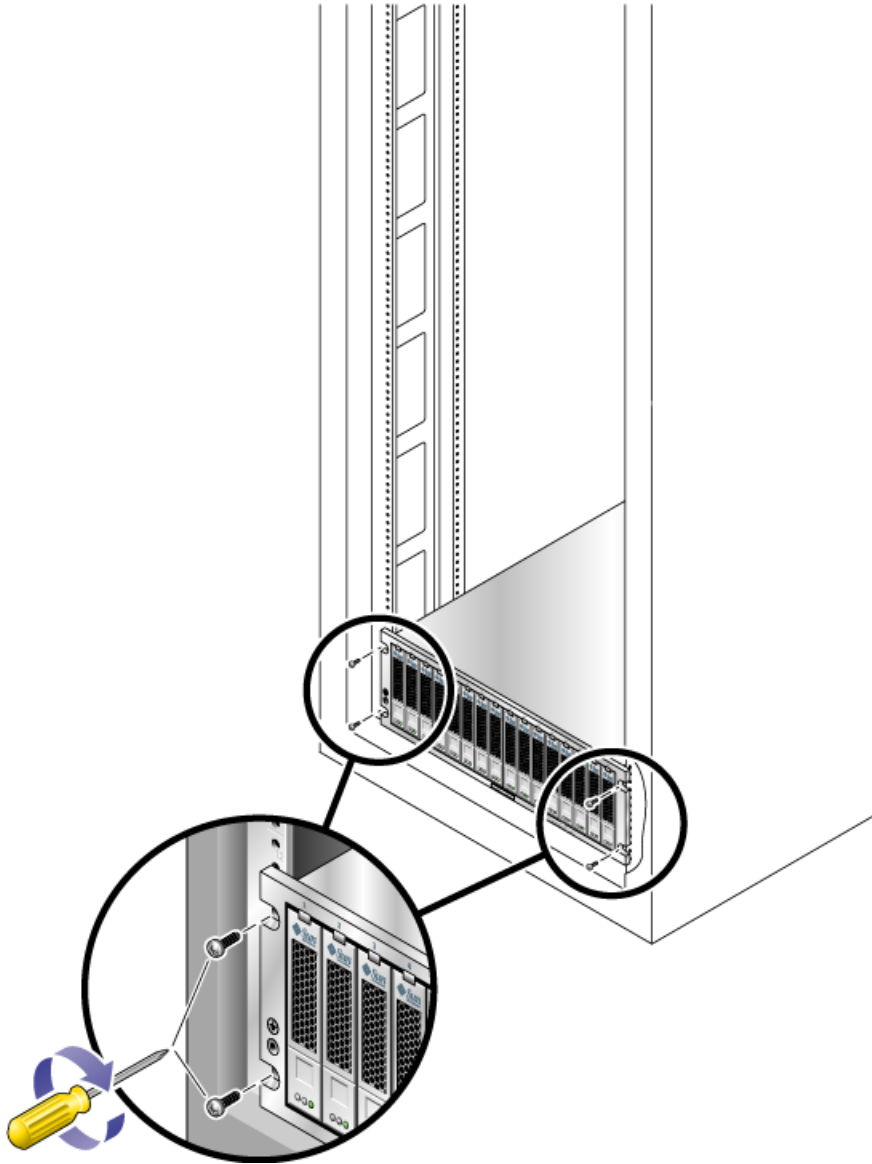

FIGURE 2-32 Securing the Tray to the Front of a Cabinet
- For a Sun Rack 900 or Sun Rack 1000 cabinet, use the #3 Phillips screwdriver to insert and tighten four metric M6 screws (two per side) at the back of the rail. (FIGURE 2-32).